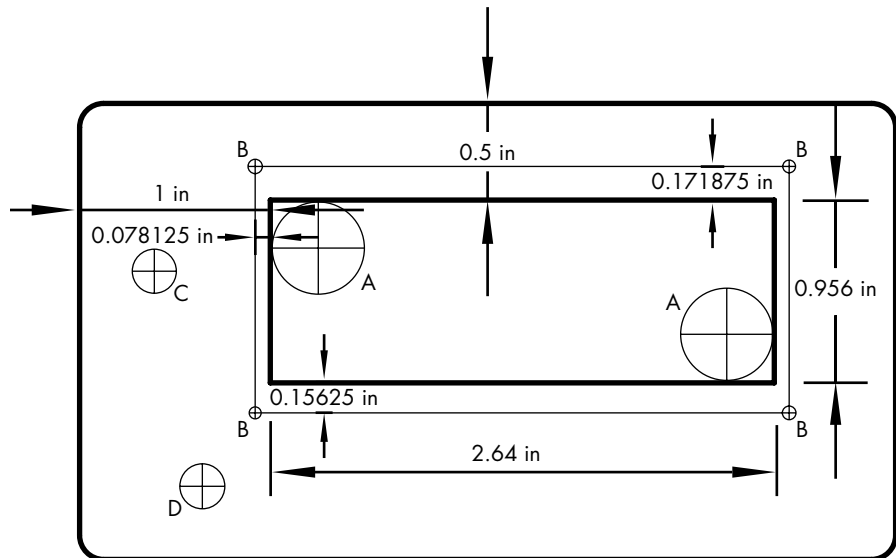

Figure 8-10: Template for holes and display for the Chronograph Lite
Figure 8-10 shows the template for the enclosure. You can download a PDF of this drawing from <https://www.nostarch.com/arduino playground/> and use it to mark and center punch the enclosure for the holes.
1. Carefully mark, center punch, and drill 1/2-inch holes for the corners of the display (A), 1/8-inch holes for the mounting holes for the display (B), 1/4-inch holes for the on/off switch (C), and 1/4-inch holes for the clear switch (D).
2. For the LCD screen, mark the edges of the 1/2-inch holes (A). Draw lines connecting the edges so you have a rectangle to cut out. (You can use a Sharpie marker and clean excess markings later with alcohol.) Drill the holes and cut the opening along those lines using a keyhole or saber saw.
3. There's a slight protrusion in the middle of the LCD on the right-hand side (facing up); this is part of the backlight assembly. You can cut a hole to accommodate for this, as I did in Figure 8-10, or you can leave the edge straight and use spacers to keep the protrusion from hitting the enclosure.